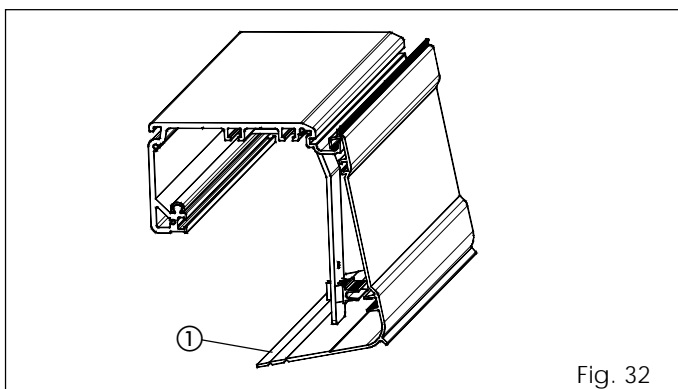

Fig. 32
- The housing is secured on the brackets with the appropriate hooks (fig. 32).
- Break off the excess lower housing profile with a pair of pliers (fig. 32 ref. ①).